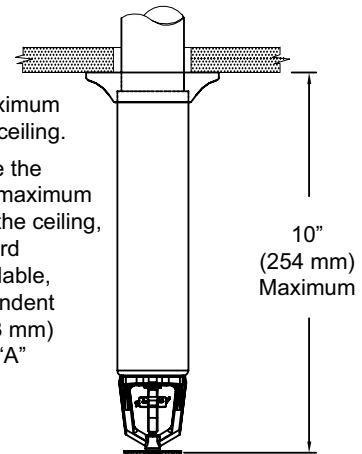

Figure 2: Adjustable Standard Dry Pendent Sprinkler
The "A" Dimension is the distance as measured from the face of the fitting in which the sprinkler will be installed to the face of the finished ceiling in the protected area. See Figures 2, 3, and 4
**The minimum required barrel length is not the same as the "A" dimension. Refer to Figures 2 - 4 for the "A" dimension.